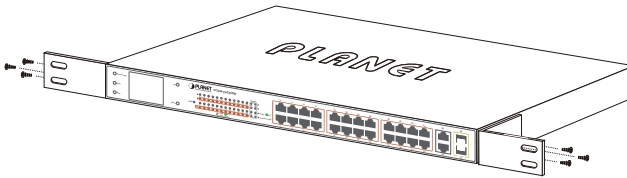

Figure 3-2: Attaching the Brackets to the 802.3at PoE+ Switch
- Step 2:** Attach a rack-mount bracket to each side of the 802.3at PoE+ Switch with supplied screws attached to the package. Figure 3-2 shows how to attach brackets to one side of the 802.3at PoE+ Switch.